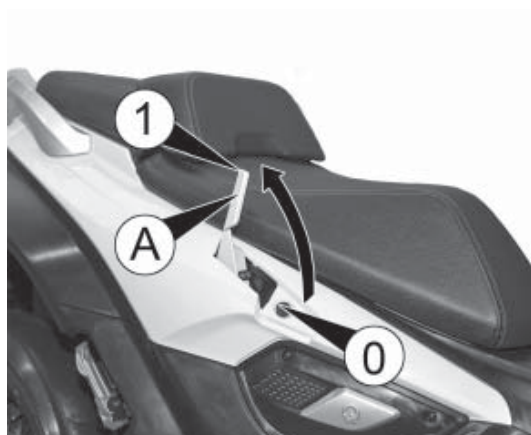

fig. 8
- Lower lever A fig. 8, accompanying it from position 1 to position 0 without letting go for the whole duration of the operation